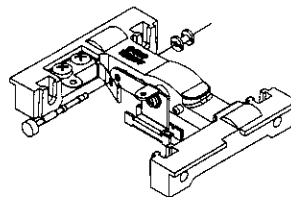

Fig.15
⑩ Insert the safety pin through the electrode, the L-shaped lever and the beam (refer to fig.15).